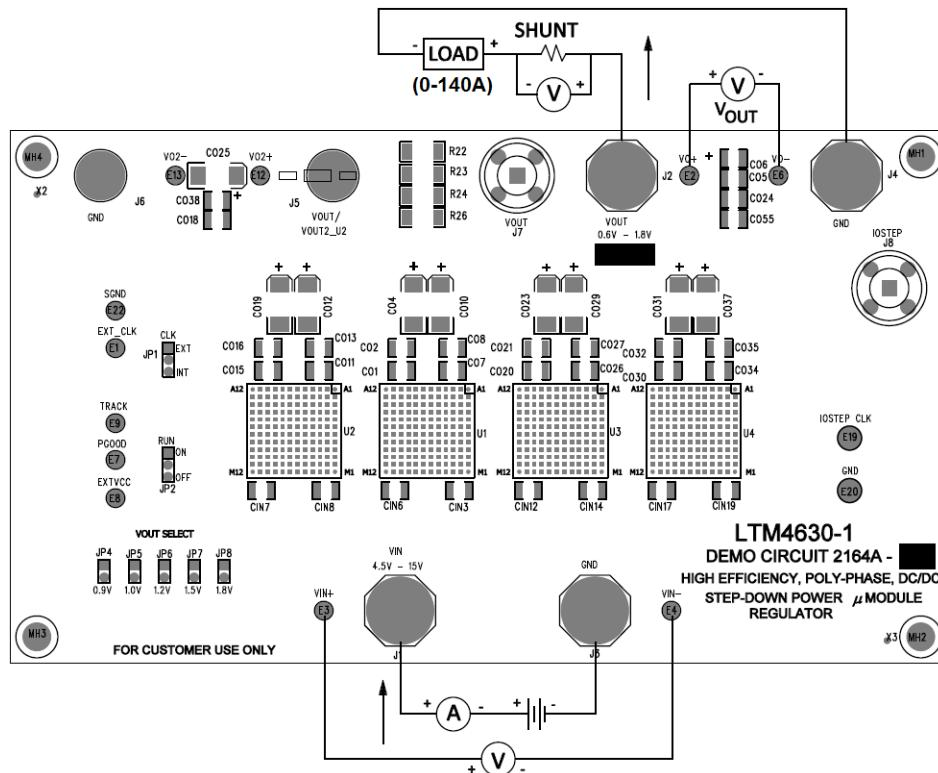

Figure 2. Test Setup of DC2164A-C
Demonstration circuit 2164A-C is easy to set up to evaluate the performance of PolyPhase operation of the LTM4630EY-1. Due to the high input/output current, user should select the proper input supply/load/cable which can sustain the full load operation. It's recommended to pull load current from J2 and J4. The load current pulled from J5 and J6 shouldn't exceed 18A. Please refer to Figure 2 for proper measurement setup and follow the procedure below:
2. With power off, connect the input power supply, load and meters as shown in Figure 2. Preset the load to 0A and V_{IN} supply to 12V.